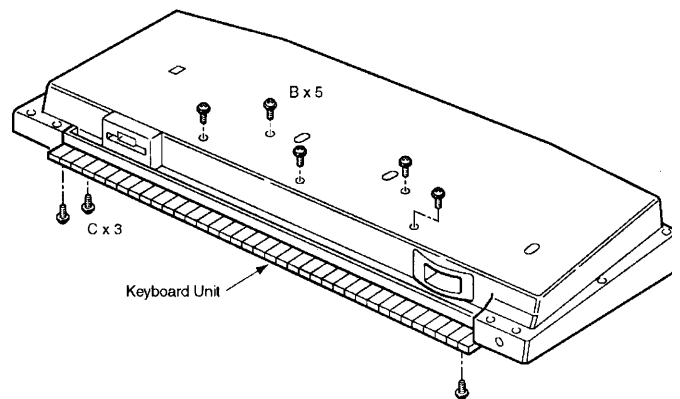

Figure-18
2. Remove the keyboard unit mounting screws (B 5 pcs.) as shown in Figure-18.